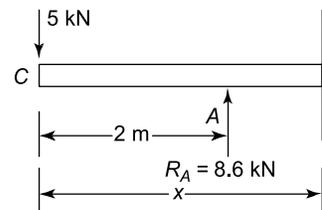

Figure 7.12
**For the range  $A$  to  $D$ ,** see Figure 7.12.